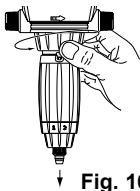

Fig. 16
- Unscrew the retaining ring (Fig. 16).